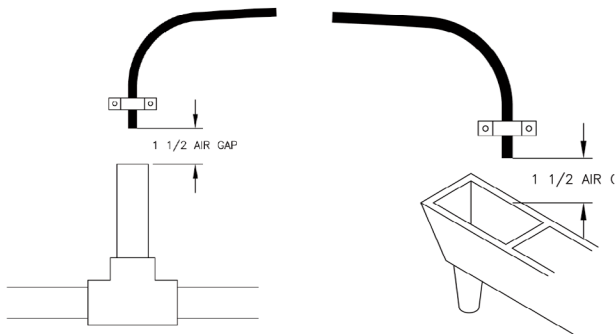

Figure 7: Also be sure drain line has an air gap.
2. If the drain line is a 5/8" outside diameter X 1/2" inside diameter flexible poly tube, slide the nut onto the poly tube, then place the poly tube insert into the end of the poly tube and tighten the nut on to the 3/4" drain line fitting. The nut is only designed for use with flexible poly tube. Use other nuts if attaching different materials. Run line to a drain. Making sure you have a 1 1/2" airgap. You may use a floor drain, standpipe or any open type drain (see Fig. 7 on page 14).